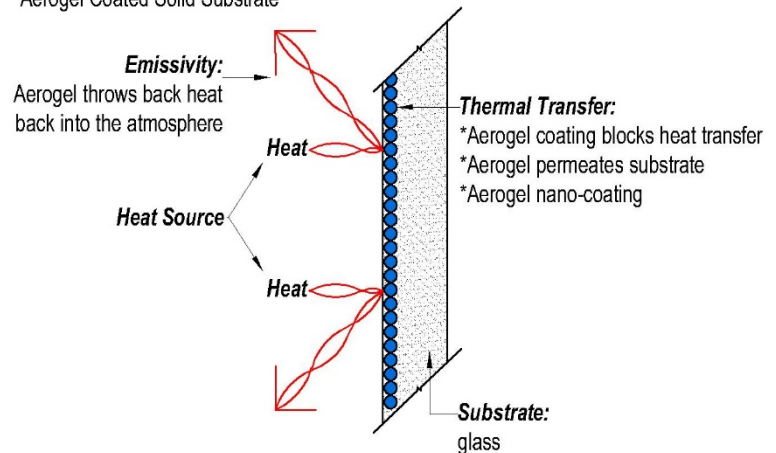

Figure3: Incorrect Reading of Thermal-transfer Measurement
1. Put a back plate, preferably white directly behind the glass to be able to get the same heat onto it as the glass we want to measure and therefore stop the laser beam from passing through and measure the first solid substrates temperature it hits behind the glass (Figure 3)